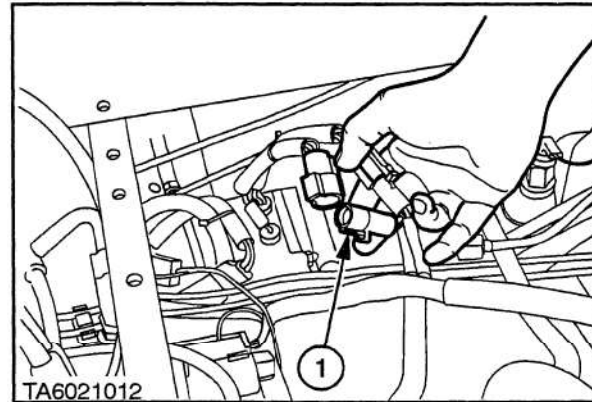

Figure 4-4-10
- (iv) Disconnect a range switch connector and install Special Tool FNH00875 (bypass connector) into the harness, (1) Figure 4-4-10.